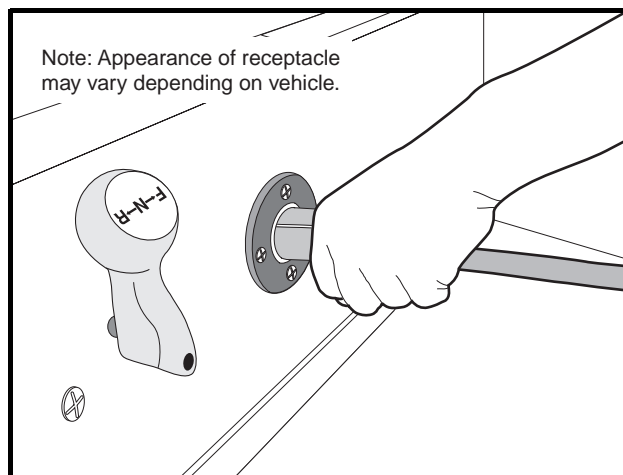
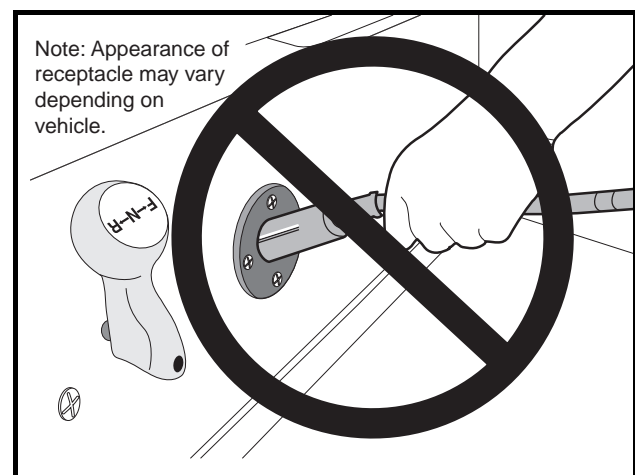

Figure 2 Charger Receptacle
Figure 3 Incorrect DC Plug Removal
- The charger plug must be pulled slowly from the receptacle (Figure 2). Jerking or pulling the DC cord out quickly could cause arcing and burning that could damage the plug and receptacle and could cause batteries to explode (Figure 3).
- Do not rock or bend the plug. To connect the charger plug to the vehicle receptacle, grasp the plug handle and push the plug straight into the receptacle (Figure 2).
- Do not pull on the DC cord (Figure 3). Do not twist, rock or bend the plug. To disconnect the charger plug from the vehicle receptacle, grasp the plug by the handle and pull the plug straight out of the receptacle.
2. Connect the charger DC plug to the vehicle charger receptacle located on the seat support panel (**Figure 2**). The charger will activate automatically within 2 to 15 seconds after the DC plug is connected. **See following WARNING.**
- **Do not rock or bend the plug. To connect the charger plug to the vehicle receptacle, grasp the plug handle and push the plug straight into the receptacle (Figure 2).**
When inserting the DC plug into the vehicle receptacle, align the raised guide on the plug with the guide slot in the receptacle and slowly push plug straight in (**Figure 2**). To disconnect the plug from the vehicle, firmly grasp the plug, not the cord (**Figure 3**), and slowly pull plug straight out. **See following WARNING.**
- Do not rock or bend the plug. To connect the charger plug to the vehicle receptacle, grasp the plug handle and push the plug straight into the receptacle (**Figure 2**).
- Do not pull on the DC cord (**Figure 3**). Do not twist, rock or bend the plug. To disconnect the charger plug from the vehicle receptacle, grasp the plug by the handle and pull the plug straight out of the receptacle.